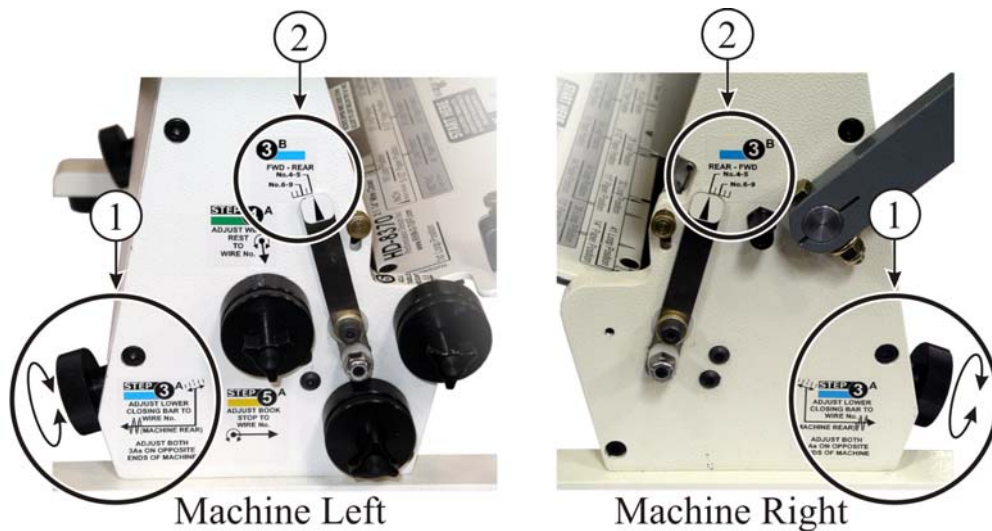

Fig. 3
STEP 3A & 3B BLUE, Adjust Lower Closing Bar: See Figure 3.
Locate Both Step 3A decals on both sides of the machine in Fig. 3 balloon (1). Adjust the Closing Lower Bar Knobs located behind the machine to the Wire No. 4 Position of the 3B (2) decals. This is the recommended start point of No.4 and 5 wires. Further adjustments may be required here, but for now follow the steps in order.